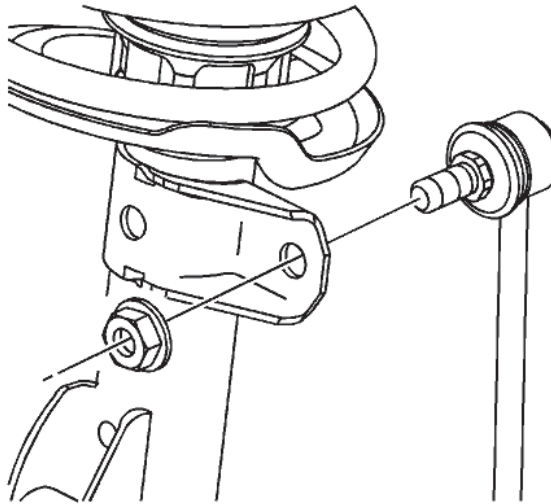

fig. 2
2. Detach brake hoses, wheel speed sensors, and stabilizer link from the strut assembly (fig. 2).